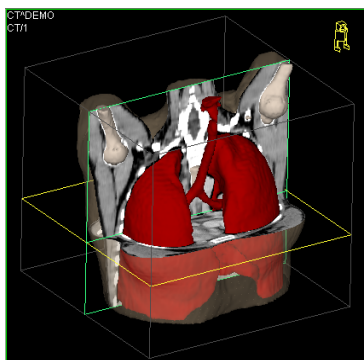

Figure 334 – 3D view
- To display ROIs in 3D view (see Figure 334), click the **3D** button.